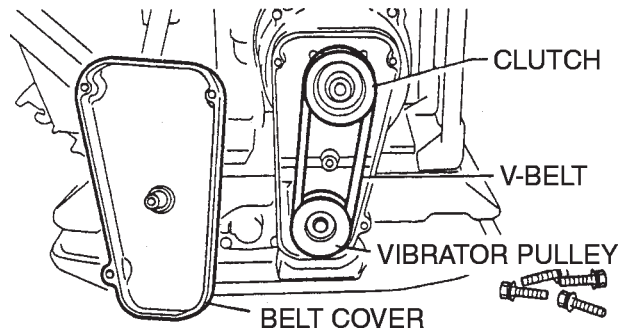

Figure 27. V-Belt Check
1. After 200 hours of operation, remove the belt cover to check the V-belt tension (Figure 27). Tension is proper if the belt bends about 3/8" (10 mm) when depressed strongly with finger between shafts. Loose or worn V-belts reduces power transmission efficiency, causing weak compaction and reduces the life of the belt itself.